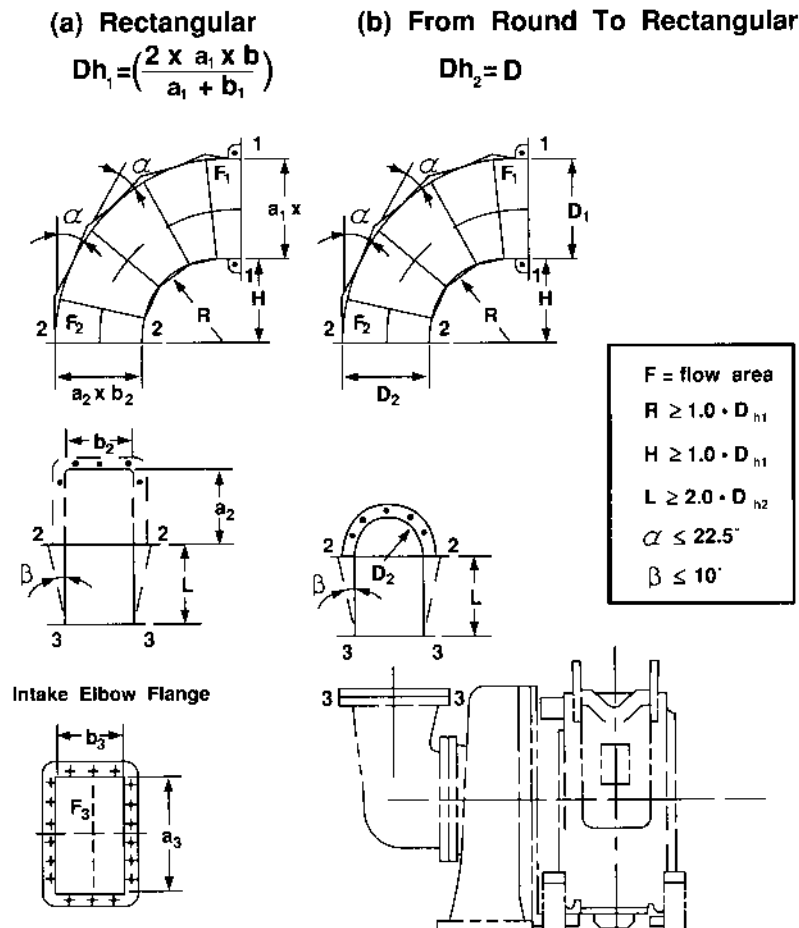

Figure 3.
1. Air intake pipes that connect to the Caterpillar supplied 90° bend air intake elbow, Figure 3.